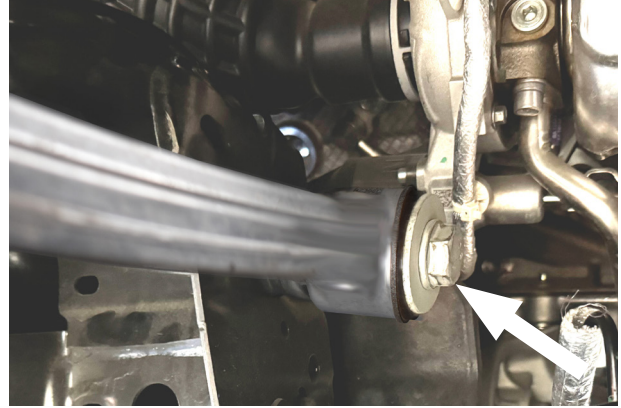

Fig.4: Loosen and remove the UCA bolt.
8. Remove the long UCA bolt attaching the UCA to the vehicle. Retain OE hardware for reuse (Figure 4)